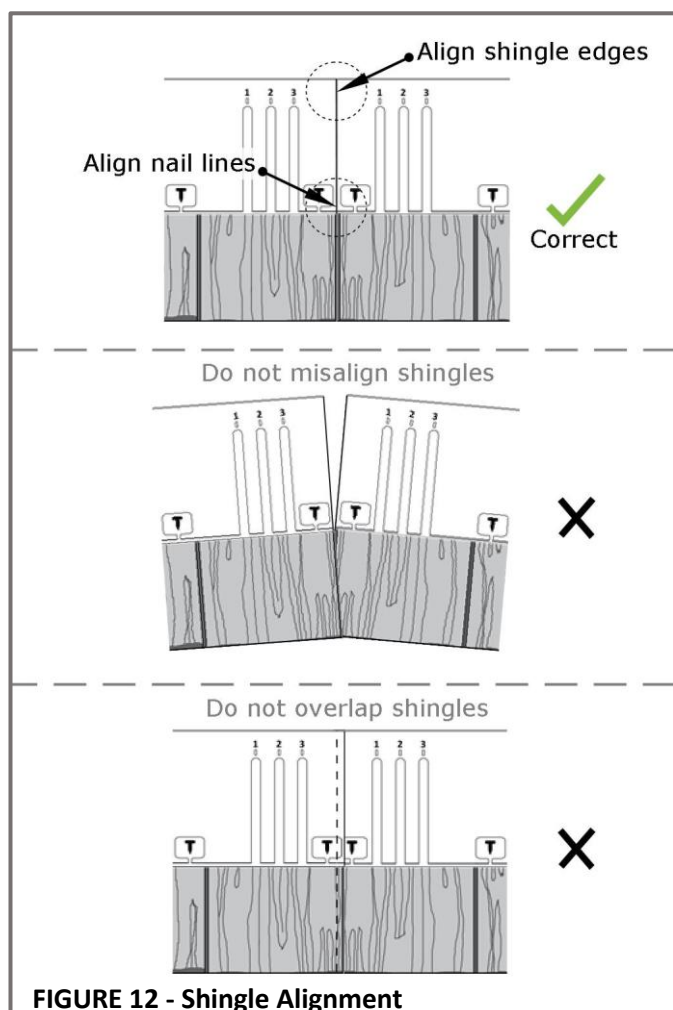

FIGURE 12 - Shingle Alignment
- When installing shingles side by side, ensure that the edges are flush with each other, so that the course is straight. It is important to make sure the nail lines are straight and match up on butted shingles. It is incorrect to misalign or overlap shingles. See **Figure 12**.